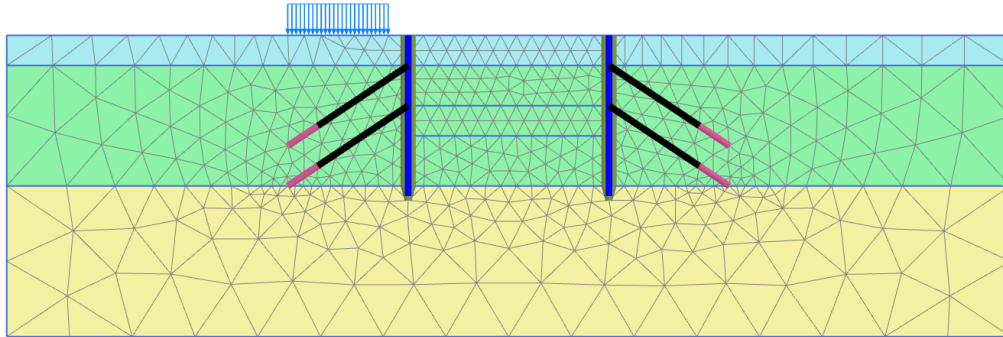

Figure 83: The generated mesh
3. Click the **View mesh** button  to view the mesh as shown in Figure 83 (on page 110).